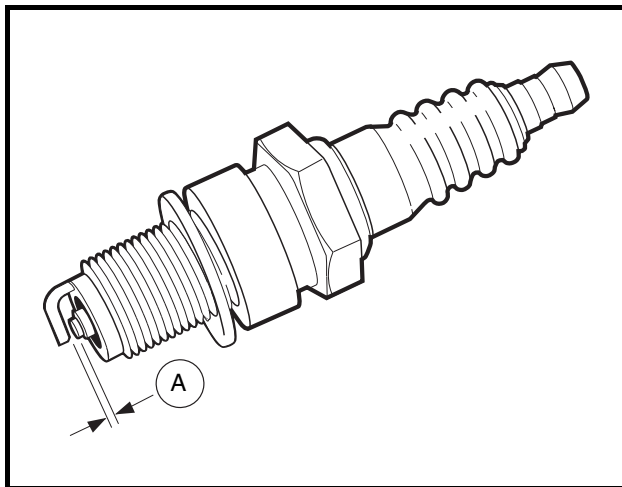

Figure 13-1 Spark Plug
Examine the plug (**Figure 13-1, Page 13-2**). The deposits on the plug base and electrode are an indication of the correct heat range and efficiency as well as a guide to the general condition of the engine, fuel and air mixture and ignition system. If all of the above conditions are proper, the spark plug should be a light brown color. There should be no bridging between the electrode and base. The electrode should not be eroded. Black color, excessive carbon, and/or a wet plug indicates that the fuel is too rich. White, burned or melted electrodes indicate the fuel is too lean or pre-igniting. Oily deposits on the plug electrode are an indication of worn rings, valve guides, cylinder wall, etc. Also examine the spark plug wire. Remove rubber boot and inspect internal spring for damage. Inspect spark plug wire for damage and be sure spring coil is securely attached to spark plug. **See following WARNING.**
2. Use a wire type gauge. Bend the outside or ground electrode so only a slight drag on the gauge is felt when passing it between the electrode. Never make an adjustment by bending the center electrode. Set gap (A) to 0.027-0.031 inches (0.69-0.79 mm) **(Figure 13-1, Page 13-2)**.